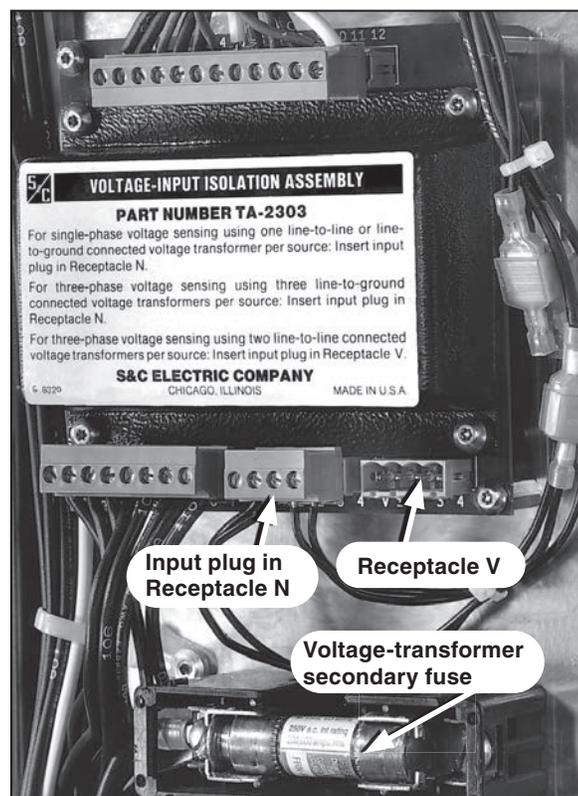

Figure 5. Removing voltage-transformer secondary fuses and grounding circuit slugs and repositioning the input plug on the voltage-input isolation assembly.
- STEP 6.** *If three-phase voltage sensing is provided by two line-to-line connected voltage transformers per source:* It will be necessary to reposition the input plug on the voltage-input isolation assembly. Remove the input plug from Receptacle N and insert it in Receptacle V. See Figure 5.